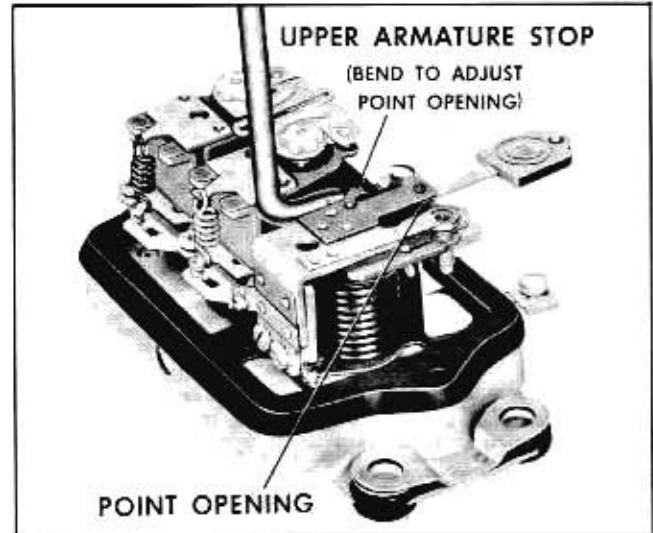

Fig. 11-24 Adjusting Cut-out Relay Point Opening
2. Check point opening and adjust to $.020''$ by bending upper armature stop (Fig. 11-24).